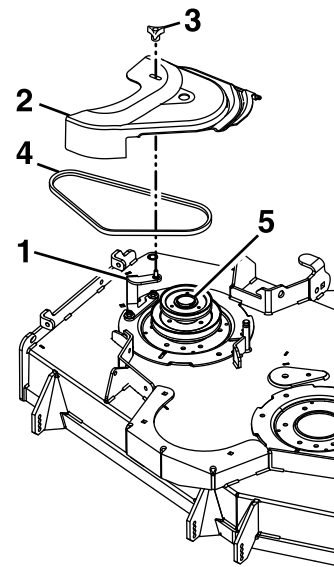

Figure 26
7. Remove the knob from the belt-cover bracket and take off the belt cover (Figure 26).